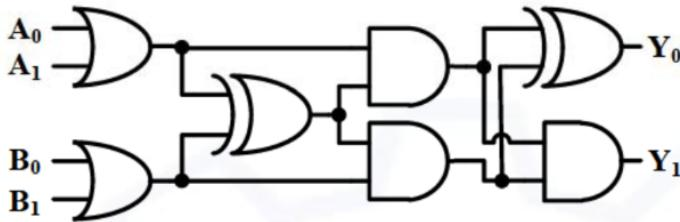

Fig. 4.25
46. In the circuit shown below in Fig. 4.25, Y is a 2-bit ($Y_1 Y_0$) output of the combinational logic. What is the maximum value of Y for any given digital inputs, $A_1 A_0$ and $B_1 B_0$?